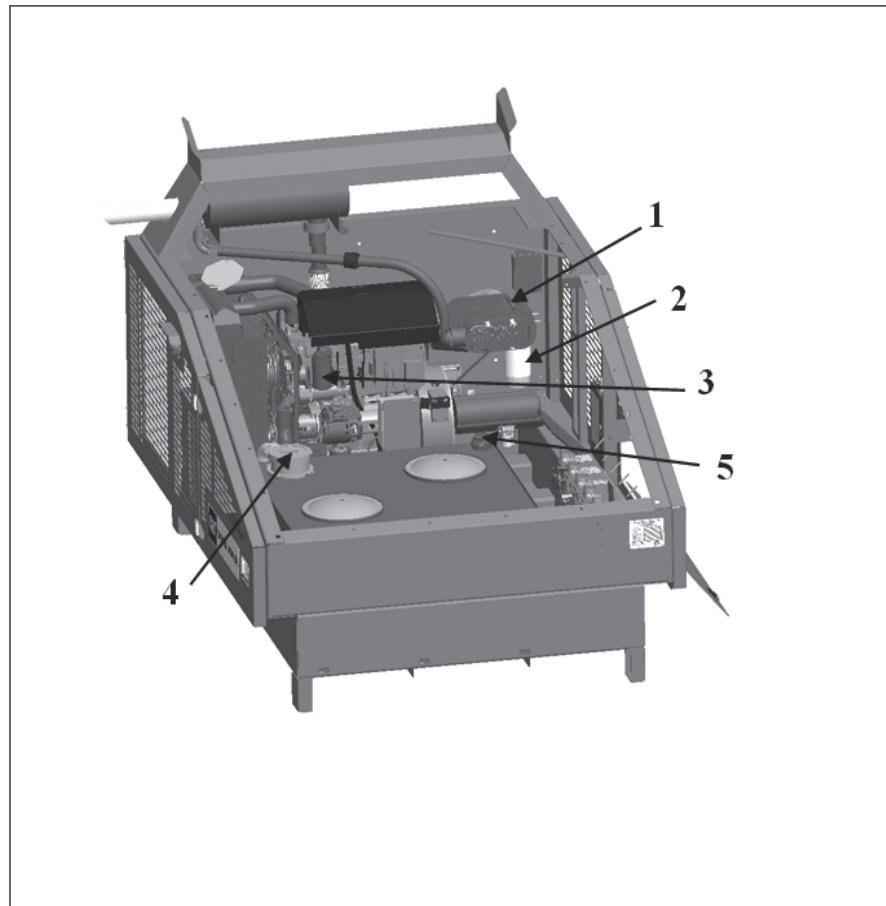

Figure 6.16 - Power Unit
3. Fill until oil reaches full level on tank gauge through the filler port (item 5) Figure 6.16, making sure all times that dirt is prevented from entering the tank.